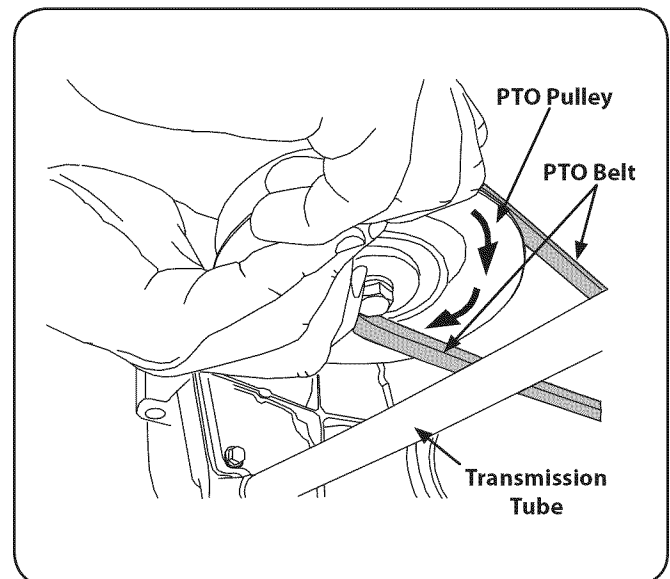

Figure 7-5
4. While still holding the belt downward, continue turning the PTO pulley to the right until the belt is rolled off the pulley. Refer to Fig. 7-5.
4. Pull the right side of the belt rearward and place the narrow V side of the belt into the PTO pulley. See Fig. 7-5.
5. While holding the belt and pulley together, rotate the pulley to the left (See Fig. 7-5). Continue holding and rotating the pulley and belt until the belt is fully rolled into the PTO pulley.